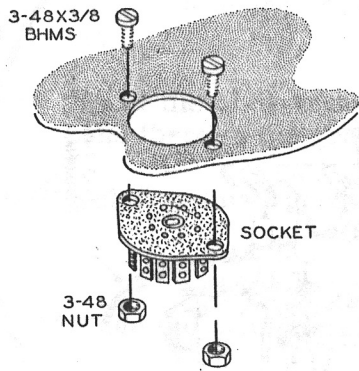

Figure 8
Use 3-48 x 3/8" binder head screws and 3-48 nuts for mounting miniature sockets as shown in Figure 8. Socket pins are numbered clockwise, starting at the widest spacing, when viewed from the bottom of the socket.
- (✓) Mount ten 9-pin miniature sockets in locations AA through AI and SH. Orient the lugs as shown. Use 3-48 screws and nuts, as shown in Figure 8.